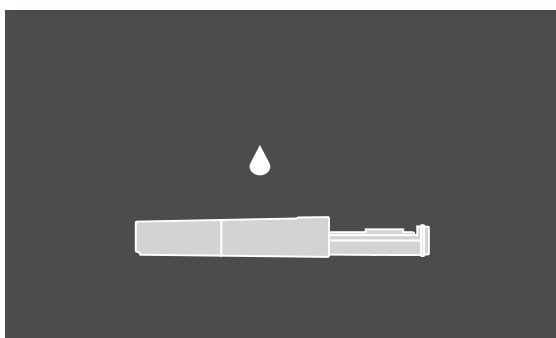

Figure 15. Load cassette screen
11. Upon successfully reading of the NFC Card, the tray from the analyzer will come out and the screen in Figure 15 will appear.